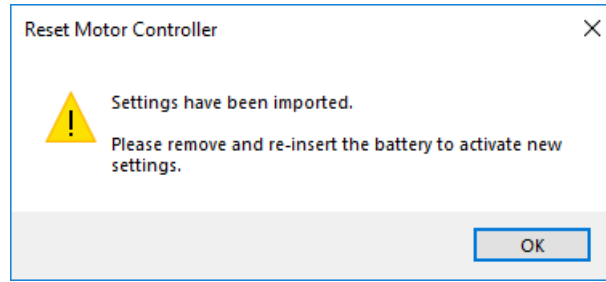

Figure 3.41 Configuration – Completion
3. Once the XML configuration file is updated, click on “OK” (Fig. 3.41) and then remove (for at least 5 seconds) and reinstall the battery in the bike.